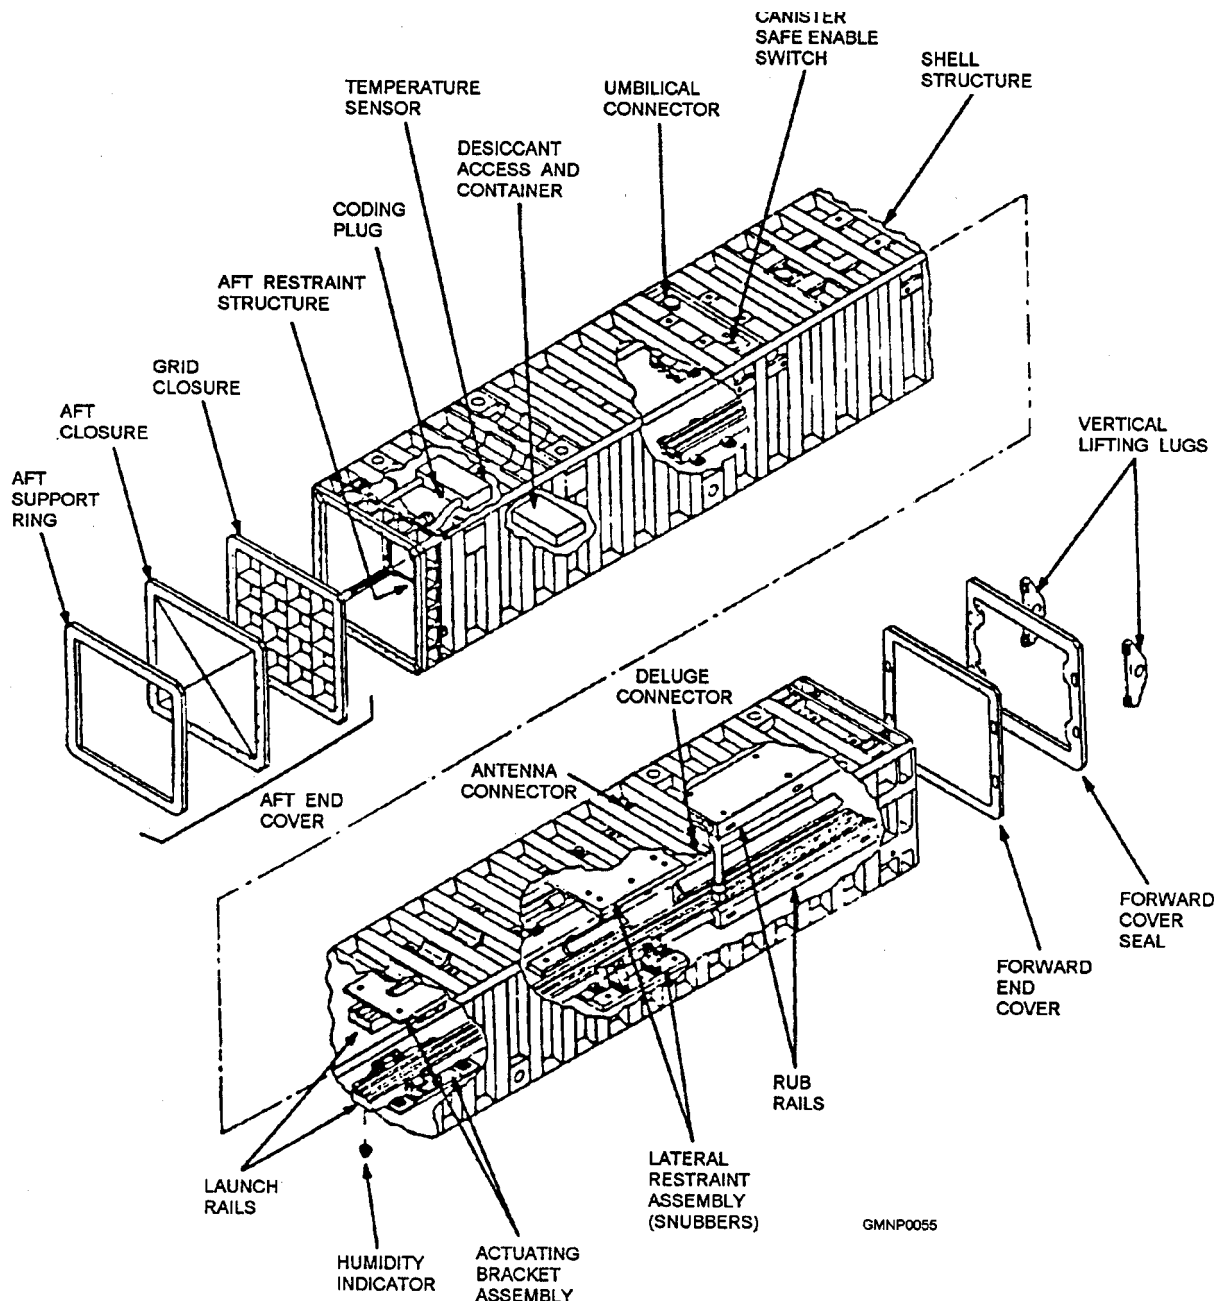

Figure 2-40.—Mk 15 Mod 0 canister.
**MK 15 MOD 0 VLS CANISTER.**— The Mk 15 Mod 0 canister houses the Anti-Submarine Rocket (ASROC) missile (fig. 2-40). The canister internal and external components are the same as the Mk 13 Mod 0.